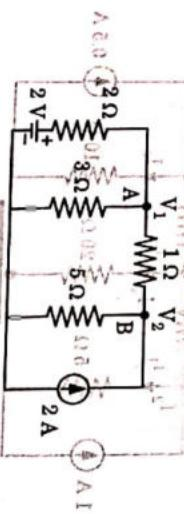

Fig. 1.11.1
**Que 1.11.** Using Nodal analysis find the current through  $1\Omega$  resistance shown in Fig. 1.11.1.